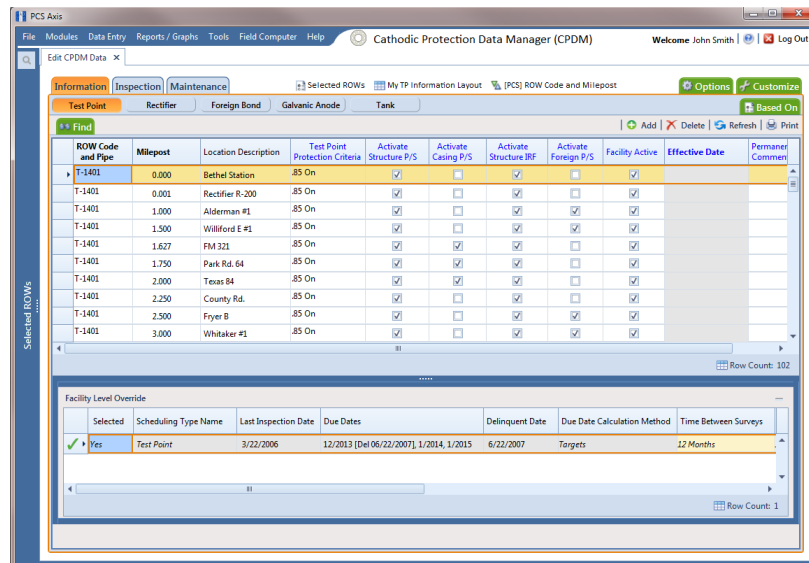

Figure 7-29. Test Point Information Grid
- Open the *Edit <module> Data* window. For example, click **Data Entry > Edit CPDM Data** to open the *Edit CPDM Data* window (Figure 7-29).